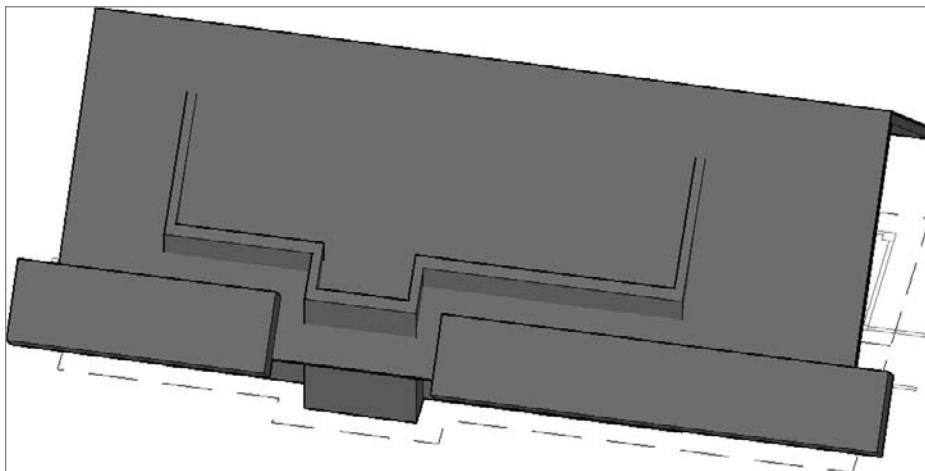

FIGURE 16.86 Extend the outside edges of the boxes.
4. Use the grips to extend the outside edges of the boxes beyond the edges of the roof (see Figure 16.86).